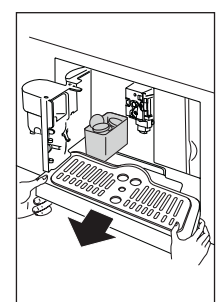

Fig. 24
- ▶ Remove the drip tray and waste coffee container (Fig. 24).